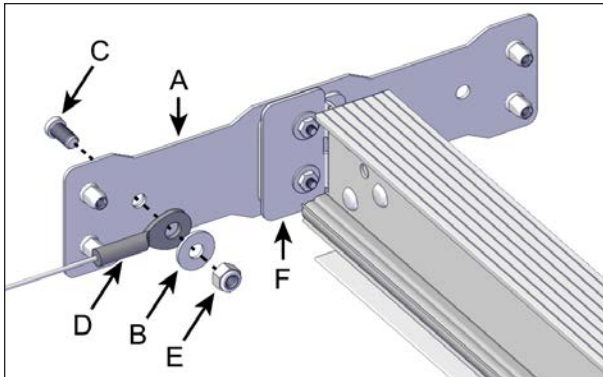

FIGURE 23: WIRE INSTALLATION
1. Install the cable with the eyelet flat side in contact with the long connection plate, see Figure 23. See the table following the image for the fasteners to use.
Make sure to use the appropriate hole as shown in image Figure 23.